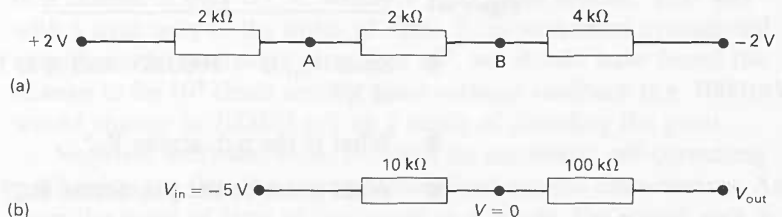

Figure I59
- c** *i* Draw a diagram of this sort to represent the potential divider of figure I59(a), and show on your diagram the values of the potentials at A and B.
ii Draw a diagram to represent the potential divider of figure I59(b).